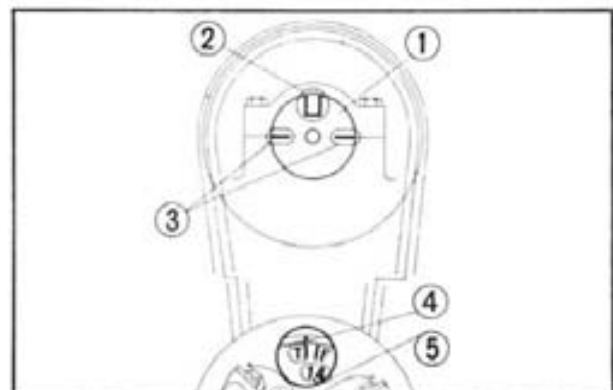

Fig. 3-40 ① Camshaft
- Assemble the cam chain on the sprocket before mounting the cam sprocket. Place the camshaft on top of the camshaft holder and align the timing index line on the right side of the camshaft, so that it is parallel to the top surface of the camshaft holder. (The key groove must be toward the top). In this condition the base circle of the No. 4 cam is toward the top and the No. 1 cam is in the overlap position. (Fig. 3-40, 41)